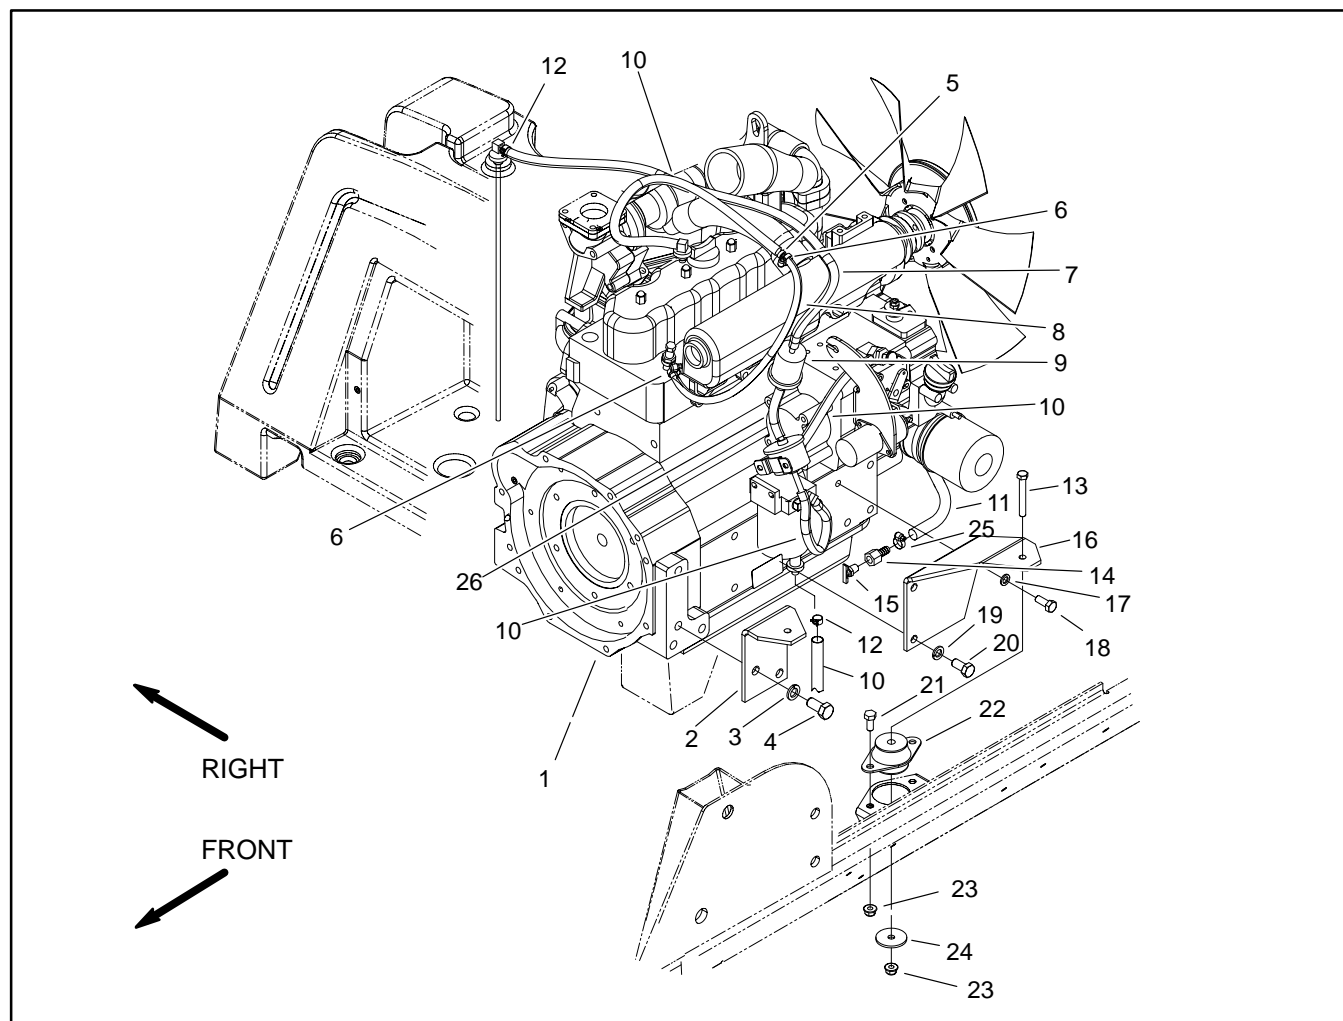

Figure 10
18. If necessary, remove engine mount brackets from the engine using Figure 10 as a guide. Note cap screw length and position during removal.